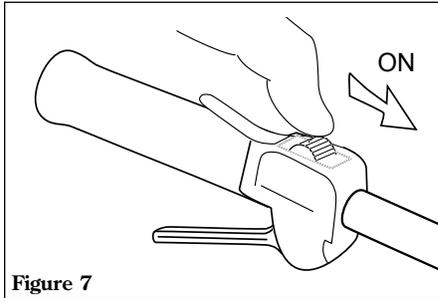

Figure 7
1. Slide the ignition switch to the "I" position. See Figure 7.